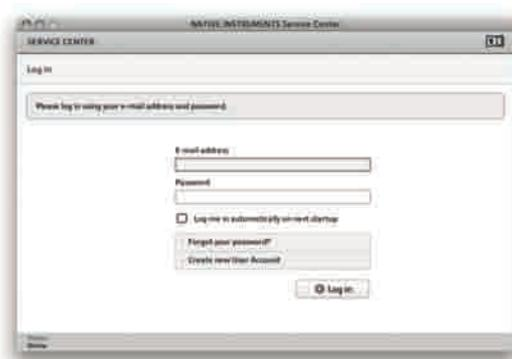

Figure 5.43
2. Please log in using your e-mail address and password. Click **Log in**. (Figure 5.43)